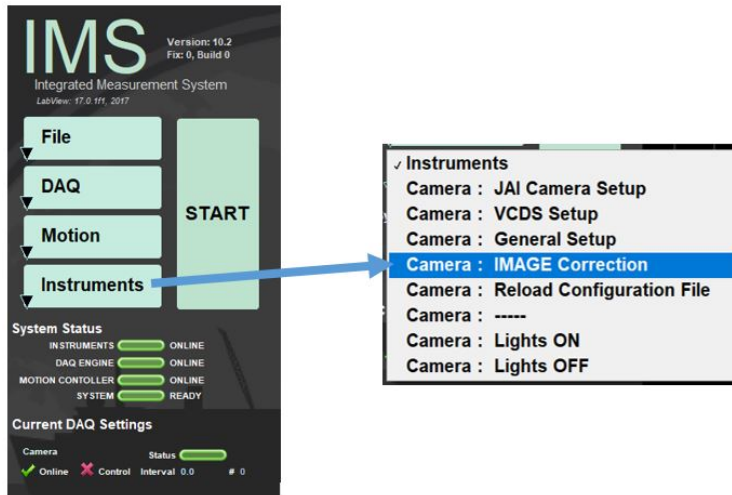

Figure 30. Image Correction command selection.
6. On the main IMS panel select **Instruments** and **Camera: Image Correction** (Figure 30).